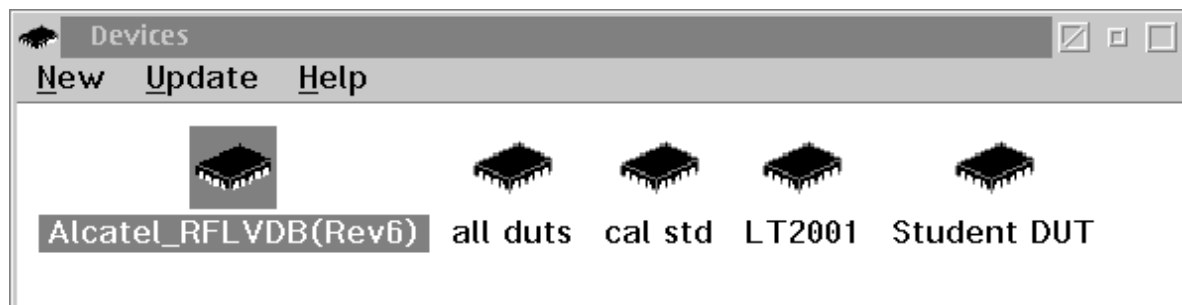

Figure 1
1. From the programmers **Message Window** select **Test** then **Devcies** then **New** (Figure 1).
7. Once you have defined all the **pin#s** and their **Types** select **OK**. Figure 4 and Figure 5 represent the DUT definition for the **Student DUT** as seen in Figure 1.